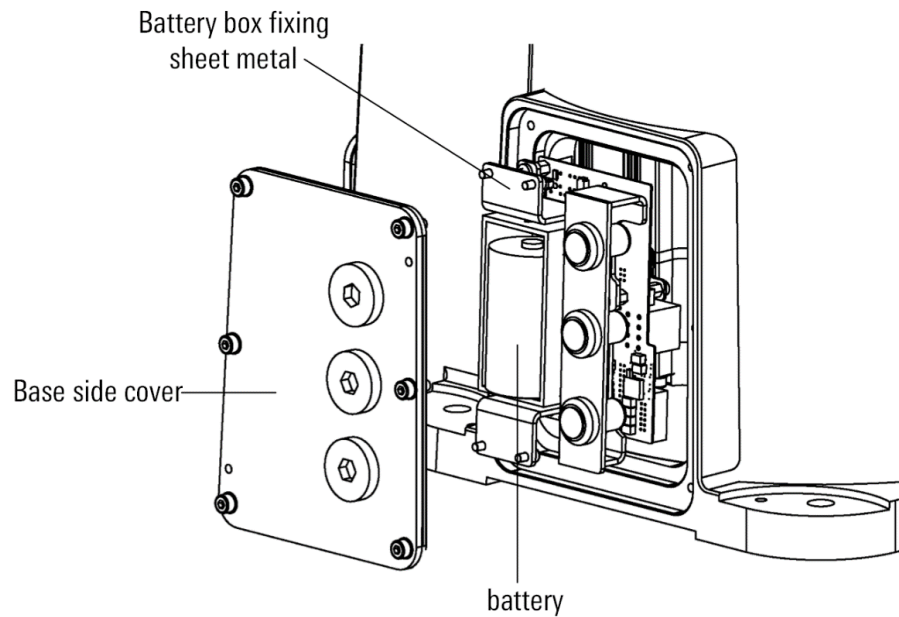

Figure 9-4 Diagram of battery replacement
- Step4. Remove the battery box fixing sheet metal from the right cover, you can see the battery, as shown in Figure 9-4.